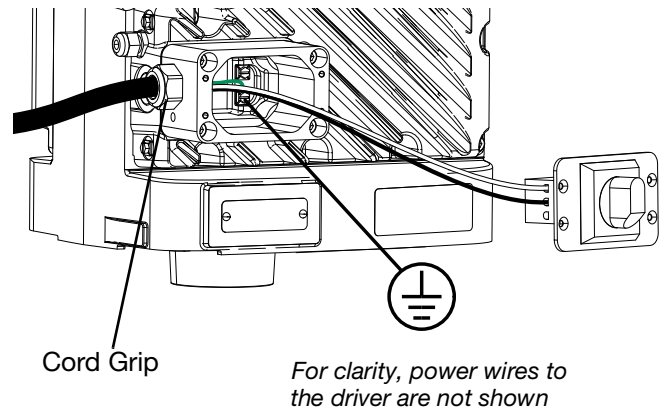

FIG. 6: Connect Power
5. Attach the ground wire to one of the two ground terminals inside the junction box as shown in **FIG. 6**.